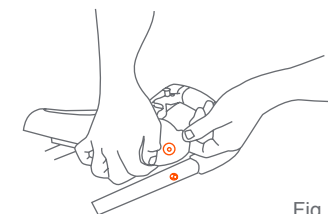

Fig. 7
- 7) • To attach the parent tray, align the fittings on the ends of the parent tray with the fittings on the outsides of the handle. Hook the hole in the parent tray. Pull outward on the opposite end while pushing down on the tray until locked onto the stroller handle. Please be careful not to pinch your fingers when installing the parent tray (Fig. 7). To remove the parent tray, pull outward on one end of the tray while lifting upward.